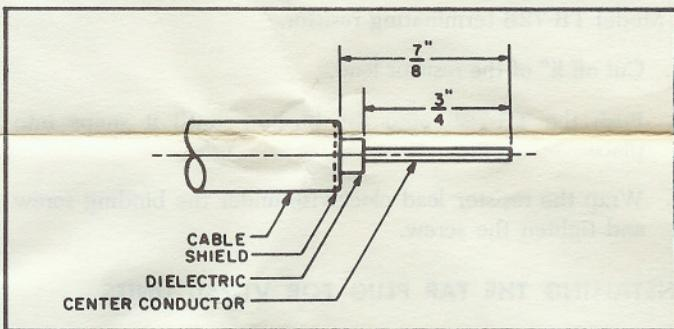

Fig. 1 – Preparing Feeder Line Cable
2. Cut the feeder line at the center of the loop and remove $\frac{7}{8}$ " of the cable outer jacket on both sections (Fig. 1). Fan the shield back over the outer jacket and trim the shield close to the jacket. Next remove $\frac{3}{4}$ " of dielectric.